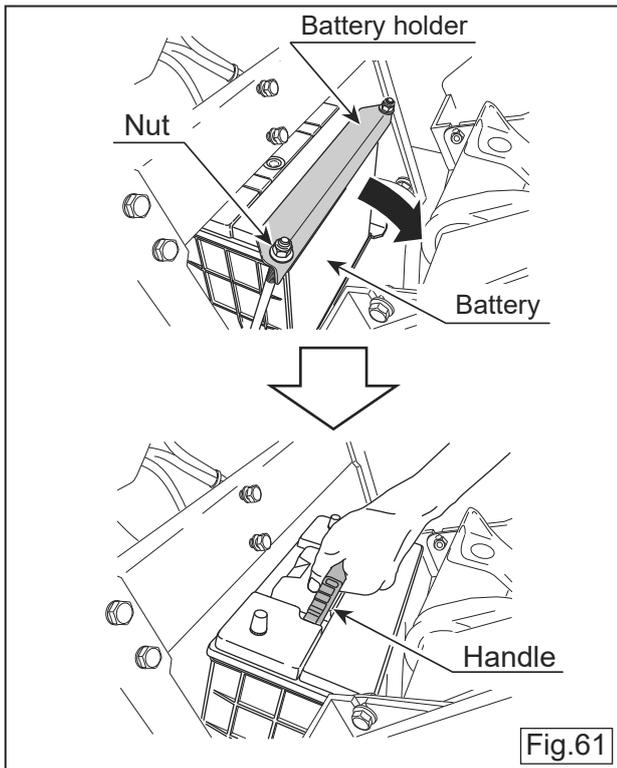

Fig.61
- 4 By holding the top surface handle, pull upward to remove the battery from the machine.(Fig.61)